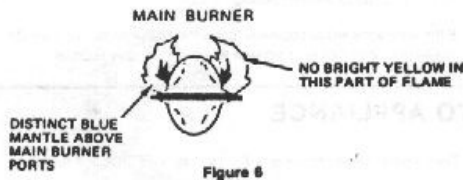

Figure 6
A. Periodically observe the main burner flame to assure it is burning with a hard blue flame with well defined burner ports (See Figure 6). If flame appears yellow or burner has a lazy flame, shut furnace down and contact a qualified service person.